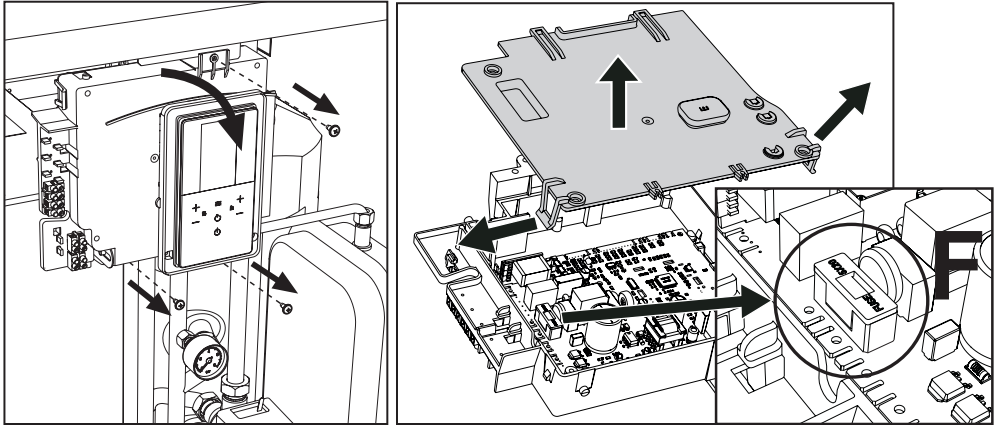

fig. 28
After removing the front panel (sect. 3.3.1 *Opening the front panel*) it is possible to access the terminal blocks (M) and the fuse (F) by following the instructions described below. **The terminals indicated in fig. 28 must be dry contacts (not 230V).** The arrangement of the terminals for the different connections is also shown in the electrical diagram (see fig. 47 - *Electrical diagram*).